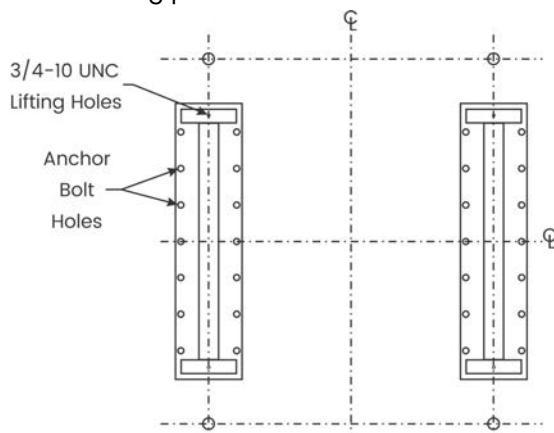

Figure 2
4. Position the buttress brackets on the floor so that they are centered along the press mounting holes centerlines (CL) left-to-right and centered front-to-back as per Figure 2. Make sure the brackets are square by measuring the diagonals to be sure the measurements are equal.